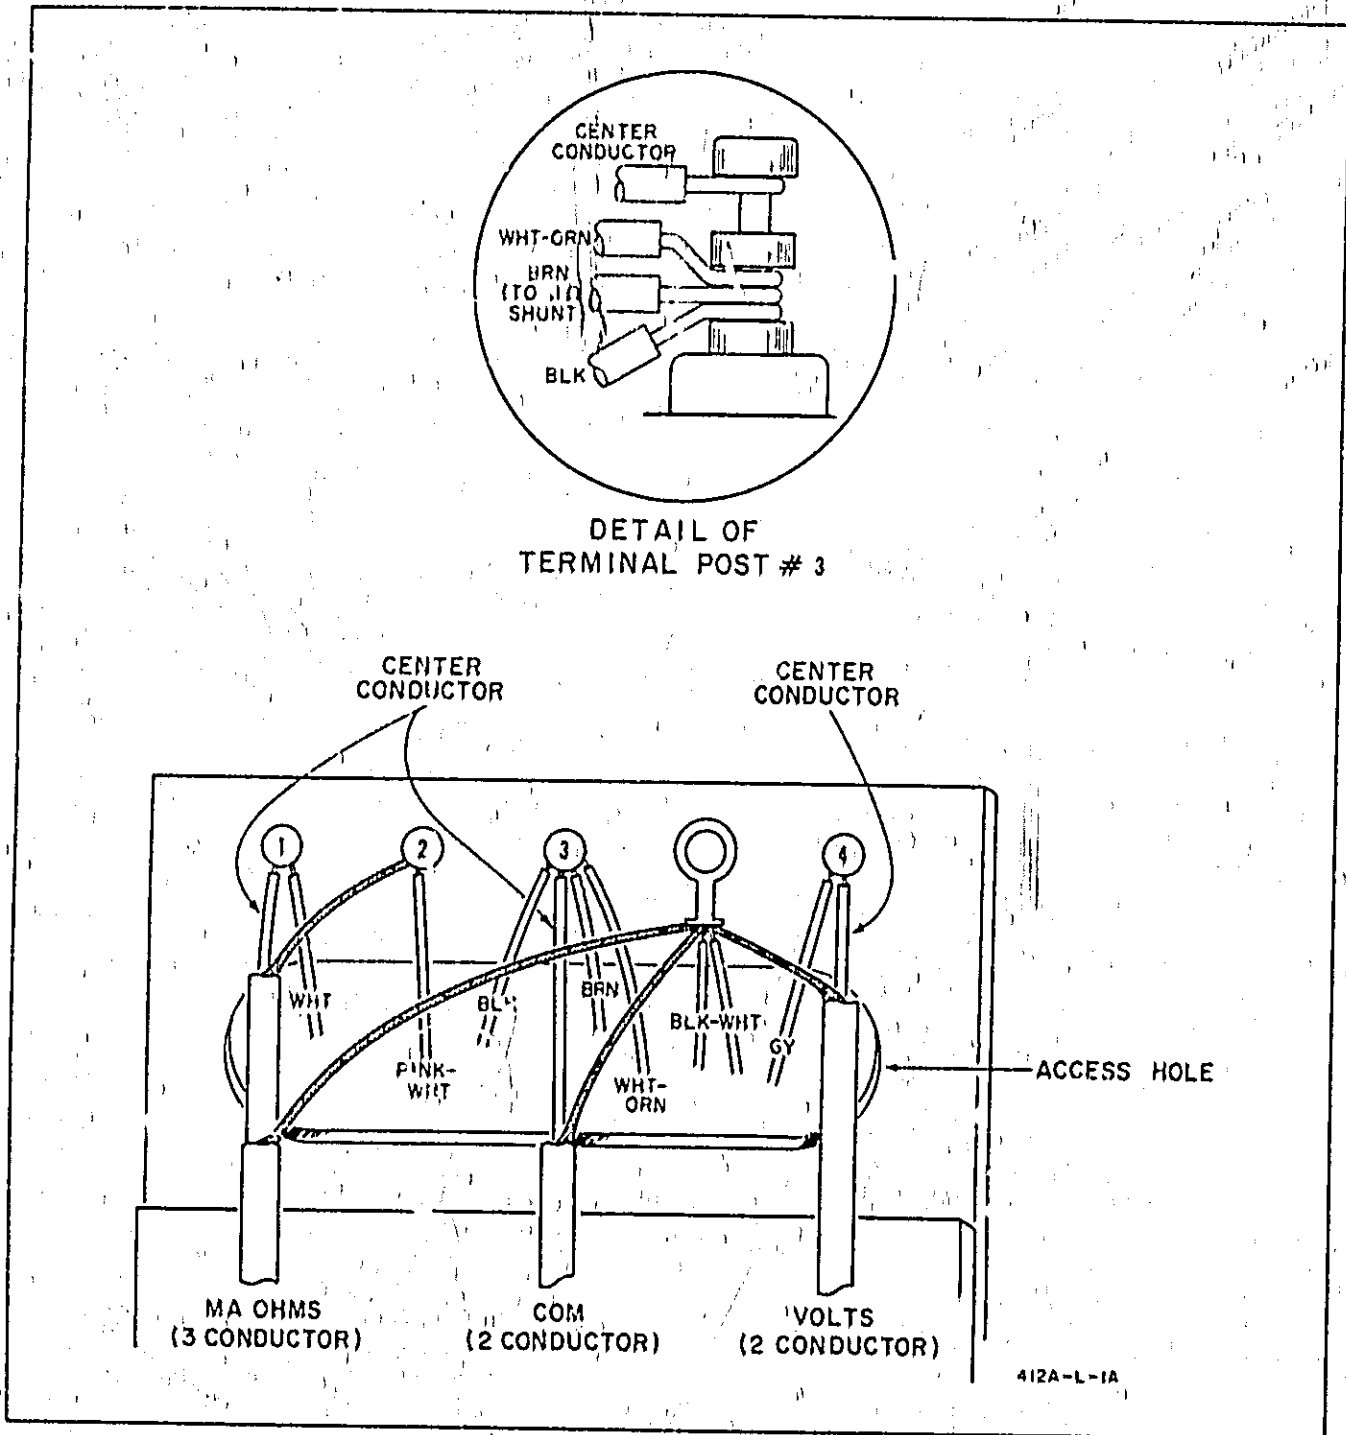

Figure 2. Connection Diagram for MA/OHMS, COM, and VOLTS CABLES
8) Refer to figure 2. Very carefully unsolder VOLTS, MA/OHMS, and COM cables at input terminals. Do not shorten leads. Note that OHMS lead is three conductor cable.